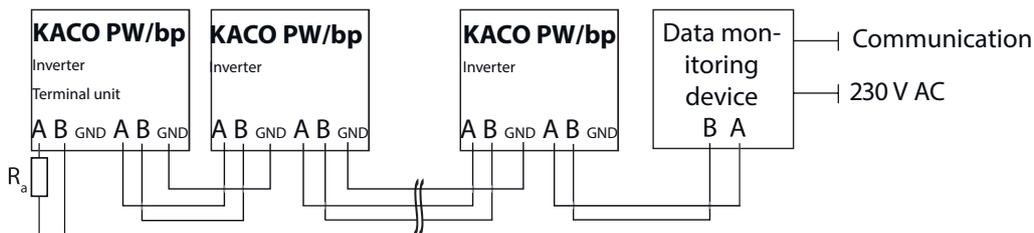

Figure 23: RS485 interface wiring diagram
- GND with GND (see Figure 23)